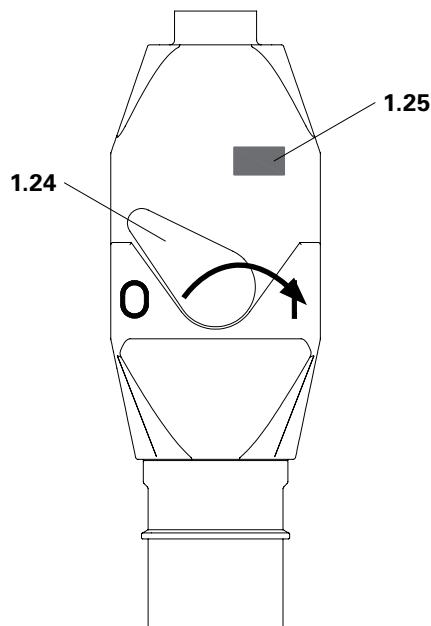

Fig. C1.02
4. Check the rotation direction of the motor. If the control lamp is red, monitor the rotating field (1.25) (Fig. C1.02):